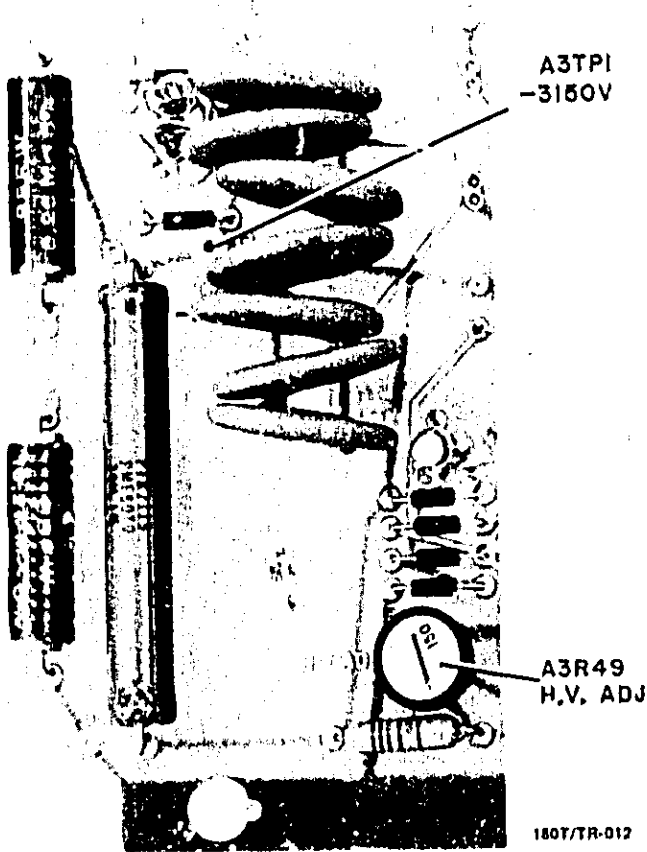

Figure 5-7. High Voltage Adjustment Location
- d. Monitor voltage at A3TP1 with dc voltmeter using 1000:1 divider probe (see figure 5-7).